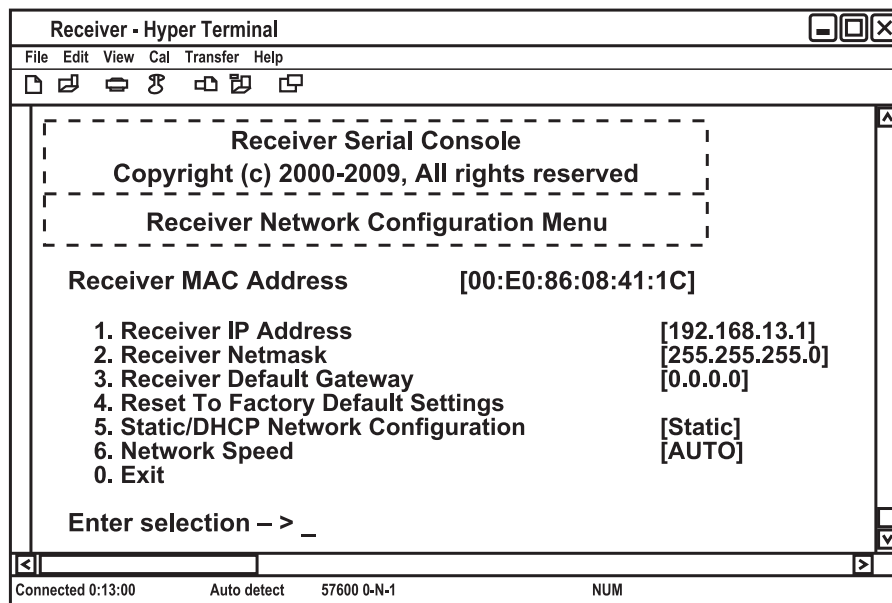

Figure 4-16. Receiver Network Configuration Menu (Extender and Desktop Mode).
1. Press "1" to select the Receiver Network Config option in the Network Configuration Menu (in either Extender or Desktop Mode) and press "Enter." The screen in Figure 4-16 appears.